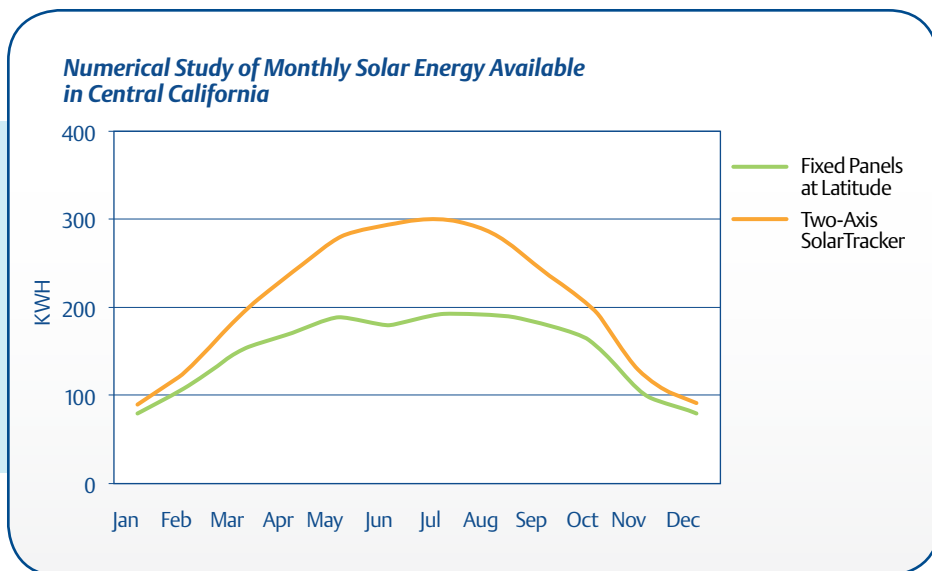

Figure 9. Numerical Study Illustrating Benefits of a Solar Tracker.
- The greatest benefit of solar tracking comes at sites with unimpeded access to the sun and when the sun moves dramatically across the sky (for example, in the Northern U.S., summer vs. winter). If the site can benefit significantly from the increase in energy during the summer by a tracker, such as a Grid Connect FIT (Feed In Tariff) installation, the additional cost and maintenance can be justified. Most studies and implementations illustrate a substantive benefit in the summer, but actual gains are dependent upon locale/regional conditions, and may be less than that of the study in Figure 9.